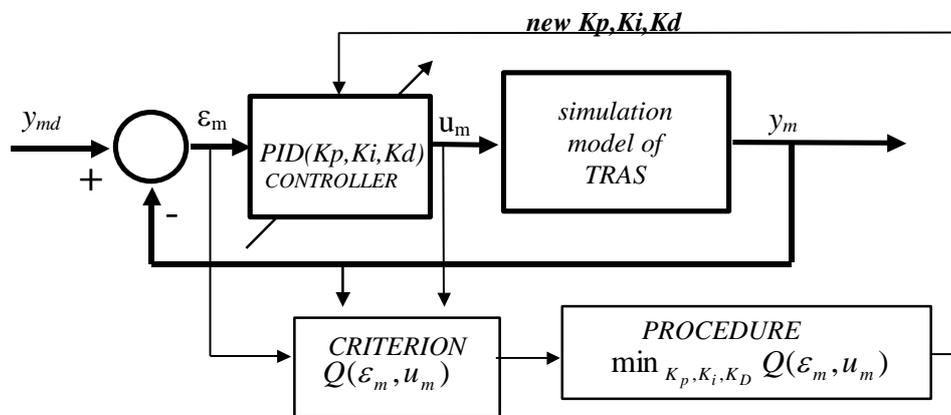

Fig. 8.1. Schematic diagram of the PID parameters tuning
- More general method is the minimisation of a objective function. The idea of this method for *TRAS* with a PID controller is presented in Fig. 8.1.